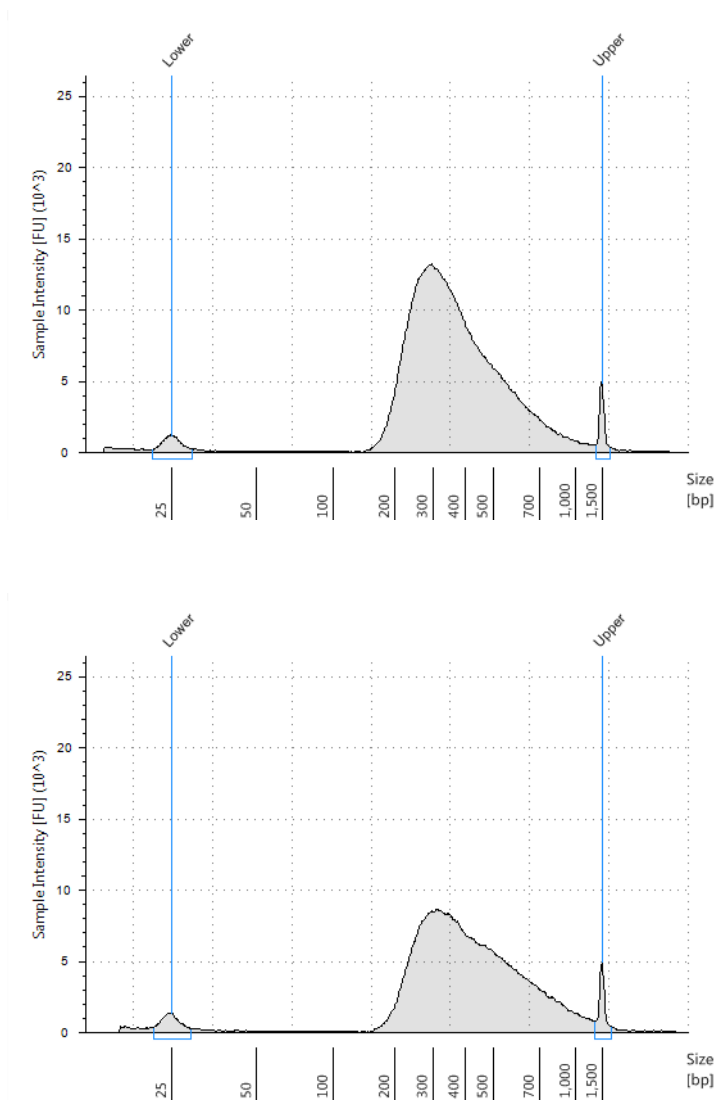

Figure 3 Representative sample electropherograms showing pre-capture analysis of amplified library DNA using the 2200 TapeStation with a D1000 ScreenTape.
- 3 Verify that the electropherogram shows the peak of DNA fragment size positioned between 245 to 325 bp. Sample electropherograms are shown in Figure 3. Variability of fragmentation profiles may be observed.